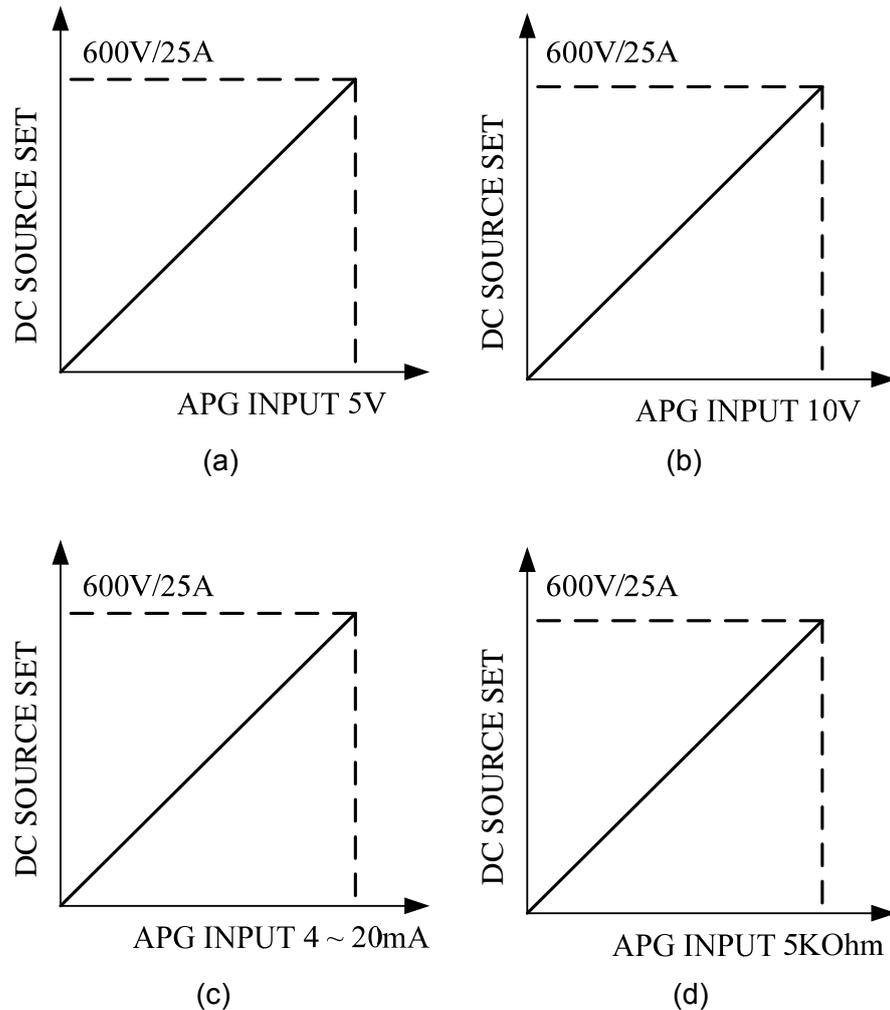

Figure 3-7
- a. When selecting Vref=5V ➡ it means the DC Power Supply's output 0V ~ 600V/0A ~ 25A will map to 0~5V as Figure 3-7(a) shows.
- b. When selecting $V_{ref}=10V$ → it means the DC Power Supply's output $0V \sim 600V/0A \sim 25A$ will map to $0\sim 10V$ as Figure 3-7 (b) shows.
- c. When selecting $I_{ref}=4\sim 20mA$ → it means the DC Power Supply's output $0V \sim 600V/0A \sim 25A$ will map to $4\sim 20mA$ as Figure 3-7 (c) shows.
- d. When selecting $V_{ref}=5K\Omega$ → it means the DC Power Supply's output $0V \sim 600V/0A \sim 25A$ will map to $0\sim 5K\Omega$ as Figure 3-7 (d) shows.